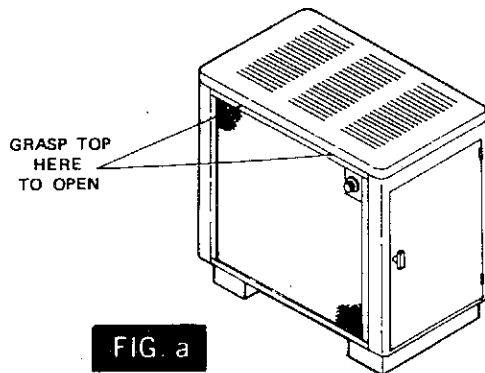

**FIG. 16**
- A. To increase the amount of heat at a "HIGH" setting, adjust the wire linkage to increase the draft damper opening (Fig. 16).
The burning rate at the low setting can be further adjusted by opening or closing the minimum fire air shutter (Fig. 16) on the draft control door.